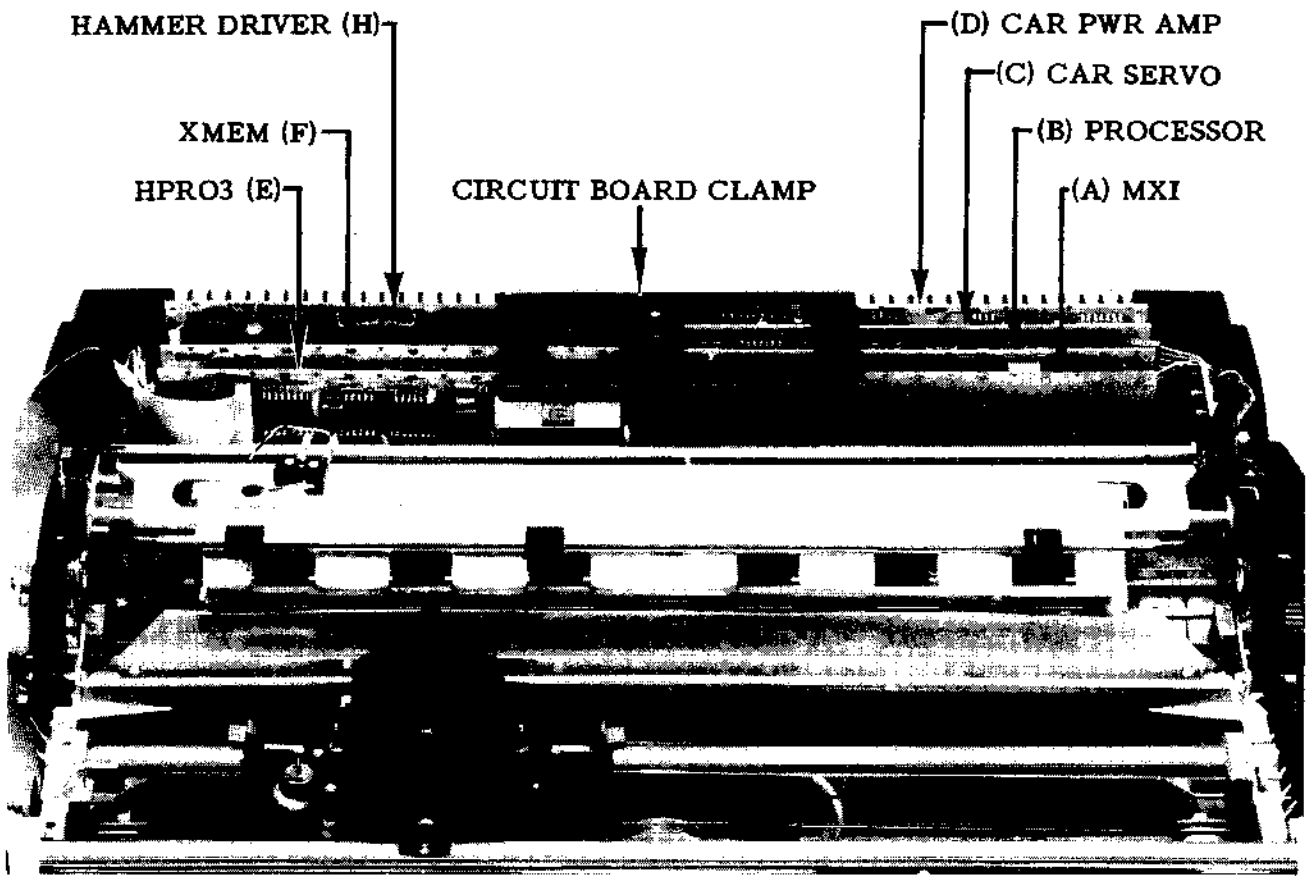

Figure 3-4. Circuit Board Locations
- (1) Turn the power off and unplug the cord from the ac outlet.
- (2) Remove the paper or forms from the printer. Remove the forms tractor if applicable (see 1660 Product Description, paragraph 2.4.3).
- (3) Remove the top cover and accessories from the printer (see 3.1.2).
- (4) Remove the screw in the center of the circuit board clamp (see Figure 3-4) and remove the clamp.
- (5) Locate the circuit board to be removed (see Figure 3-4).
- (6) Grasp the circuit board firmly at the two upper corners and pull it straight up, taking care not to stress any existing cable connections.
- (7) Disconnect all remaining cables from the circuit board.
If excessive resistance is encountered, check to make sure the proper board is being installed in the socket: all boards are keyed so they will not fit in the wrong socket (refer to Figure 3-4).
- (1) Set the power switch to off and unplug the power cord from the ac outlet.
- (2) Remove the top cover and accessories (see 3.1.2).
- (3) Remove the keyboard mask by lifting up on the forward corners of the mask until it "pops" loose, then lift the mask from the keyboard.
- (4) Remove the four control panel mounting screws (two screws on each side of the panel).
- (5) Remove the HPRO3 board from slot (E) of the mother board (see Figure 3-4); disconnect the control panel cable at the J2 connector.
- (6) Disconnect the remaining wiring on the rear of the control panel and lift the control panel off the HyTerm.
- (2) Connect the control panel cable to the J2 connector on the HPRO3 board and install the HPRO3 board into slot (E) of the mother board (see Figure 3-4).
- (3) Set the control panel in place and install the four mounting screws and tighten securely.
- (4) Install the keyboard mask by setting it in place and applying pressure on the forward corners of the mask until its "pops" securely into place.
- (5) Install the top cover and accessories (see 3.1.2).
- (6) Apply power and test the HyTerm.